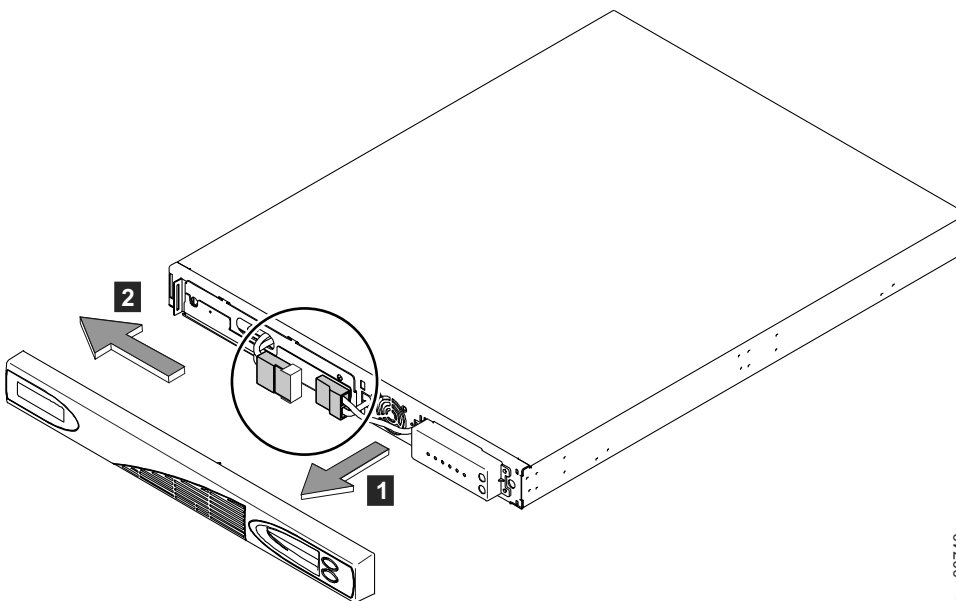

Figure 315. Removing the 2145 UPS-1U front panel
5. Remove the 2145 UPS-1U front panel by pulling it towards you and to the left, as shown in Figure 315.